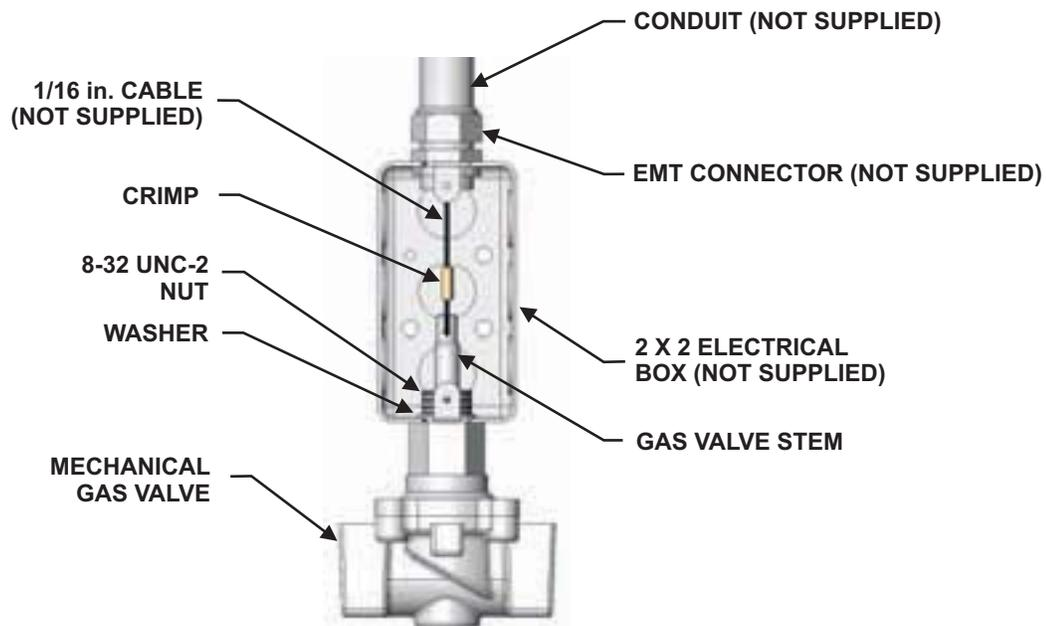

Figure 4-75. Installing Mechanical Gas Valve
2. Remove top and bottom knockouts from the 2x2 electrical box. Install 1/2-inch (13 mm) EMT to top hole of the electrical box (see Figure 4-75).